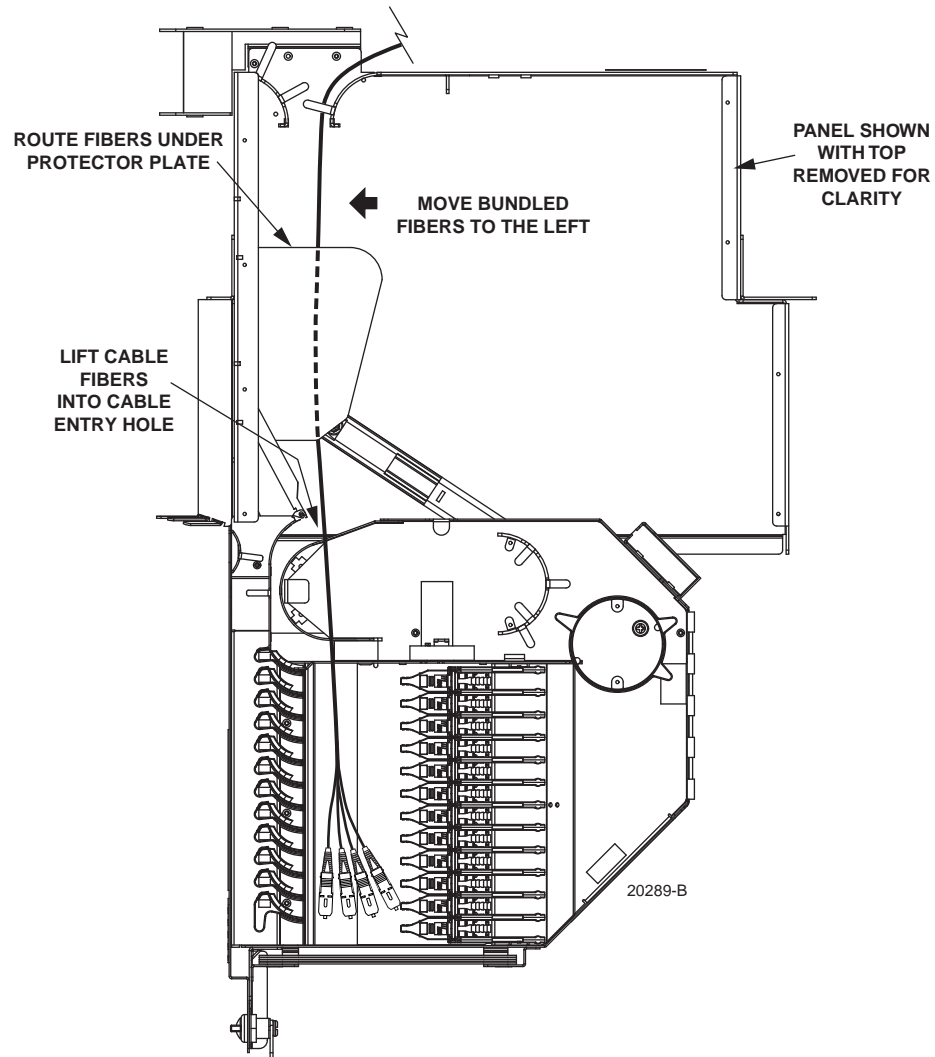

Figure 34. Positioning Breakout Cable Within Standard Termination Panel
5. At the front of the panel, lift the cable up over the top edge of the hinged drawer and move the cable to the cable entry hole on the left side of the drawer, as shown in Figure 34.